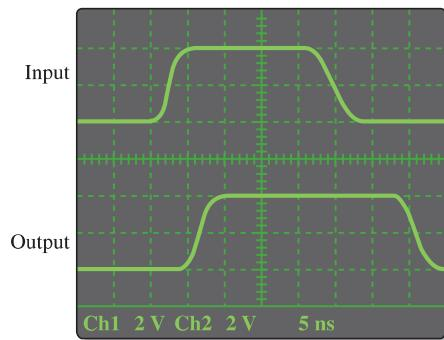

FIGURE 3–91
35. Determine t_{PLH} and t_{PHL} from the oscilloscope display in Figure 3–91. The readings indicate volts/div and sec/div for each channel.